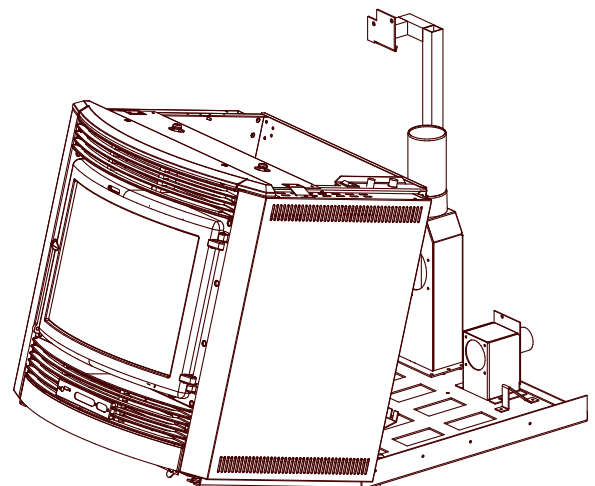

figure 6.6
Tilt it to release it from the rails (figure 6.6).
- ❖ Tilt it to release it from the rails (figure 6.6).